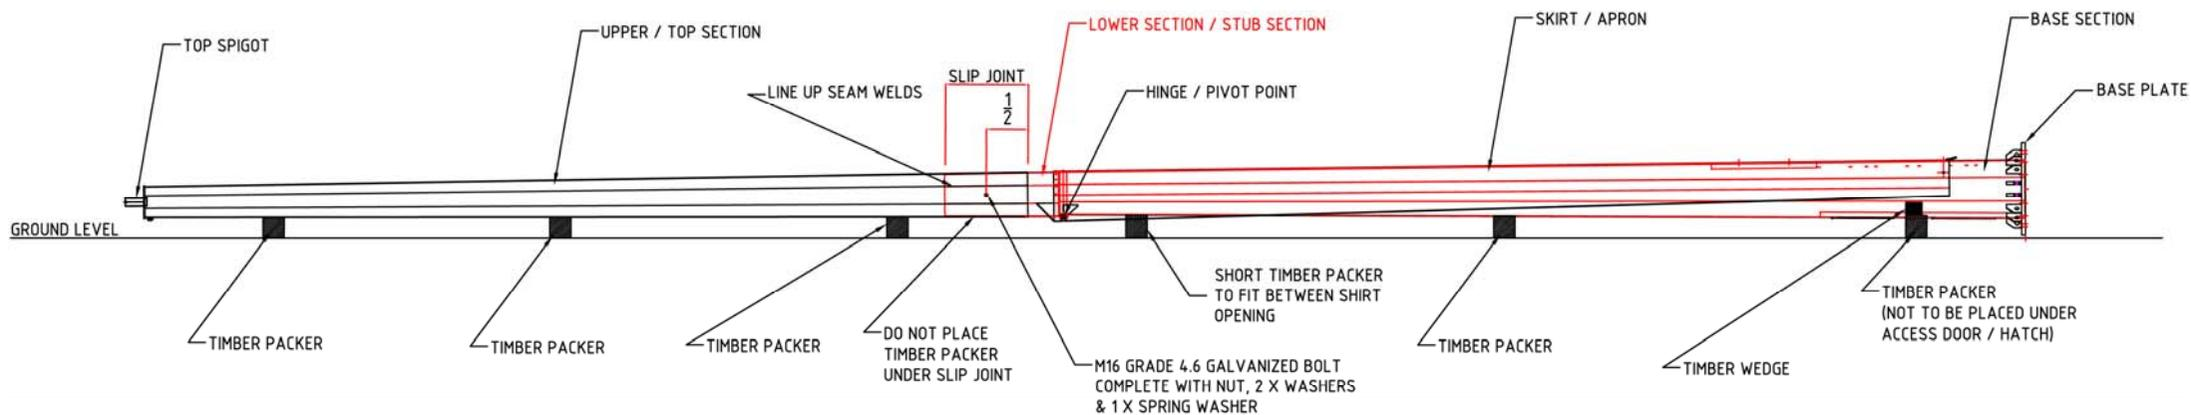

FIGURE 5
7. On all our Mid Hinged Columns, for sections above the hinge / pivot point only, once the upper section has been properly pressed onto the lower section as per the instructions above. Drill a 17mm hole directly through the centre of the Taper Lock Slip Joint on any one of the octagonal flat faces. Then place 16mm grade 4.6 bolt through the holes and secure with a nut washer and spring washer as supplied with the column(s). (See Figure 5 & 5A) below. When fastening the M16 nut, the nut is to be tightened to a torque setting of 30N-m (3kg.m) utilising a calibrated torque wrench. **Under no circumstances does this bolt fixing act as a replacement for the correct pressing of the sections together as per the above instructions. This is an added fastening method to the taper lock system. All of the points in this procedure are to be strictly adhered to prior to installing this fixing bolt. If you do not achieve points 1 to 6 above, please cease the procedure and contact G&S Industries before proceeding any further.**